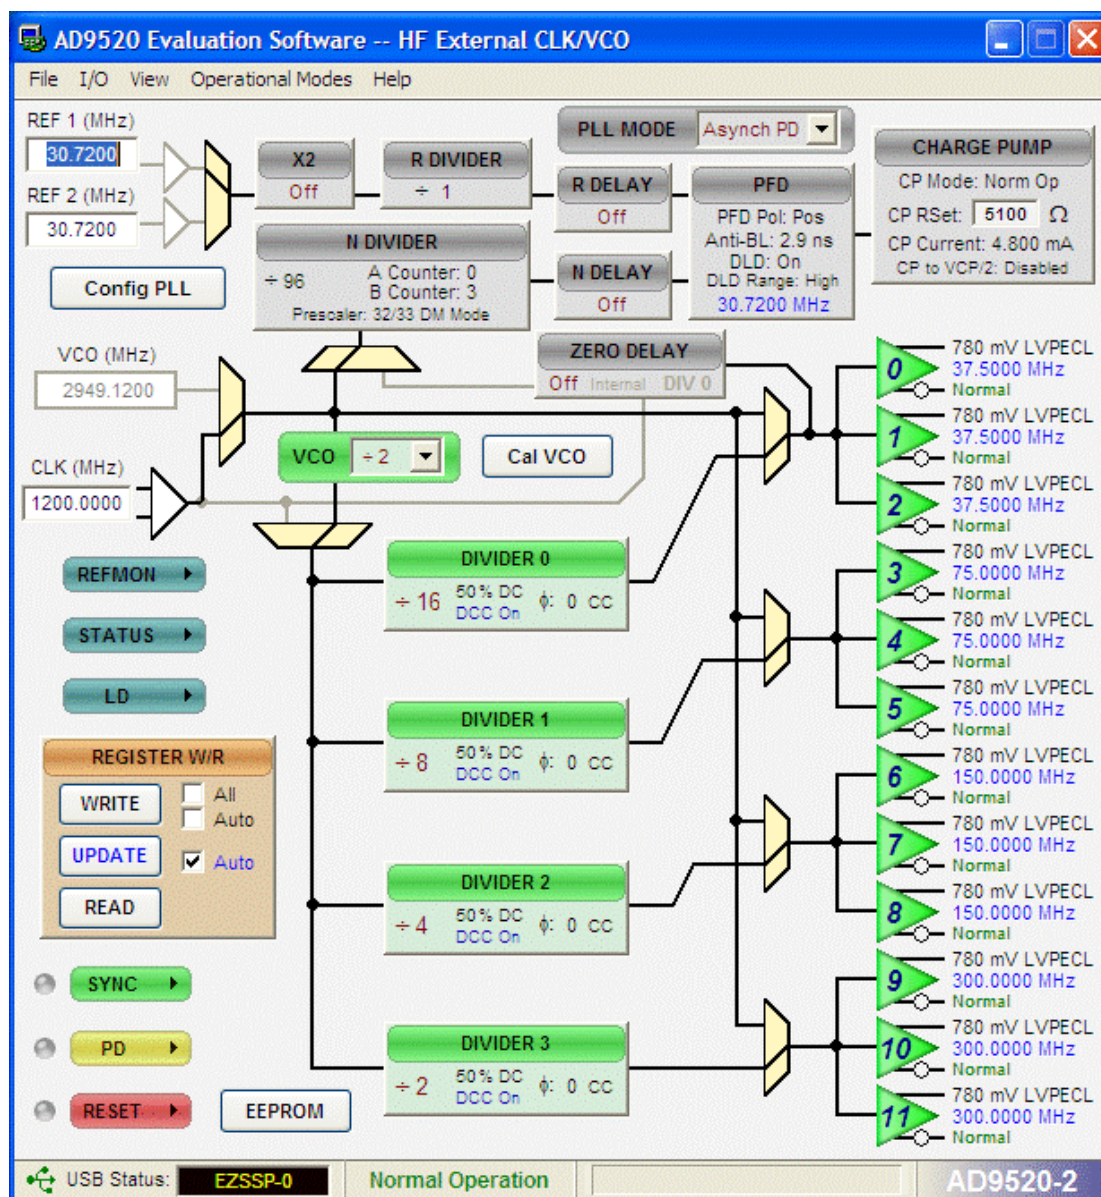

Figure 8. Evaluation Software Main Window
1. Turn the PLL on by selecting **Normal Op** from the **PLL MODE** box found at the top of the main window (see Figure 8).
4. When the window closes, the **WRITE** button under the **REGISTER W/R** section in Figure 8 blinks red. This indicates that there are settings that have not been loaded to the AD9520 evaluation board. Click the blinking red **WRITE** button to load these settings to the evaluation board.